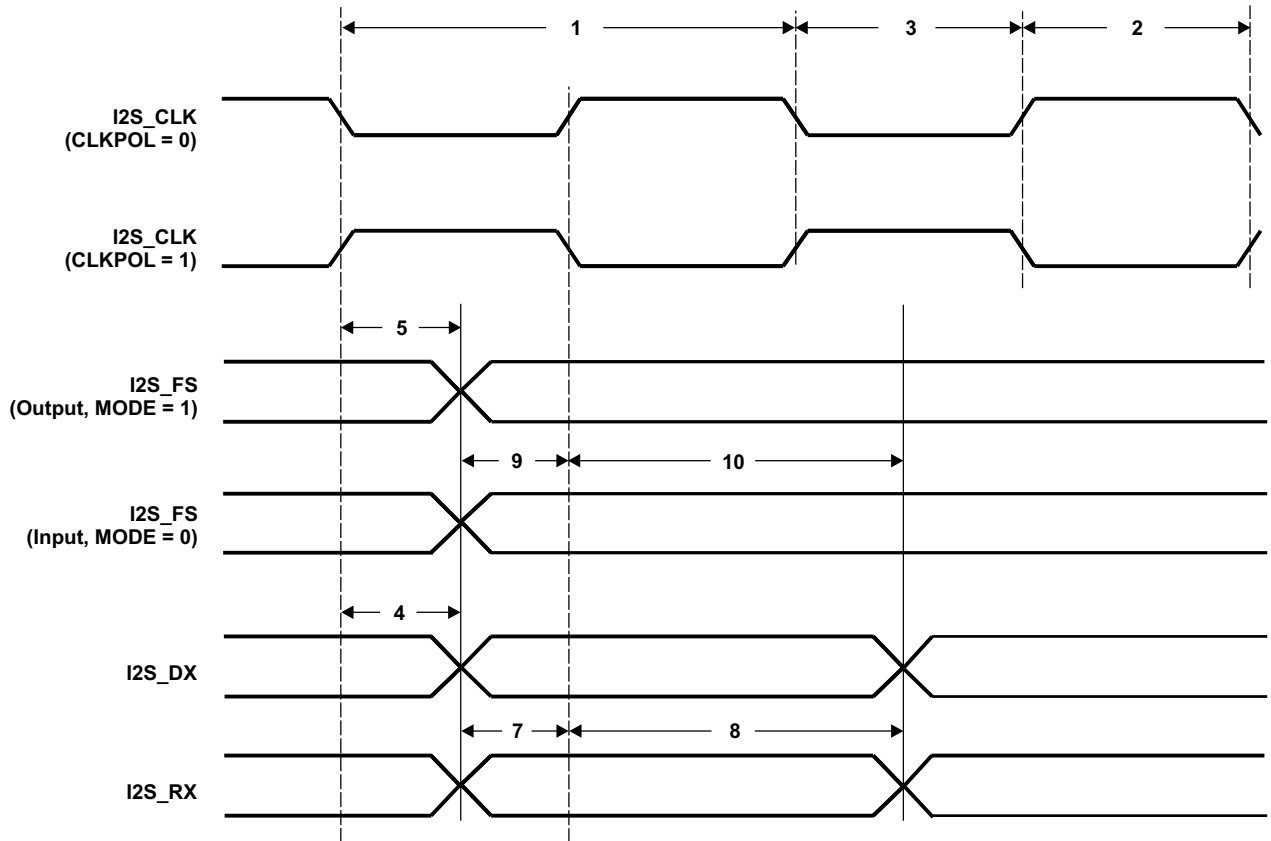

Figure 6-29. I2S Input and Output Timings
**Table 6-35. Timing Requirements for I2S [I/O = 3.3 V, 2.75 V, and 2.5 V](1) (see Figure 6-29)**
(1) P = SYSCLK period in ns. For example, when the CPU core is clocked at 100 MHz, use P = 10 ns.
(2) Use whichever value is greater.
(3) In Slave Mode, I2S\_FS is required to be latched on both edges of I2S input clock (I2S\_CLK).
**Table 6-36. Timing Requirements for I2S [I/O = 1.8 V](1) (see Figure 6-29)**
**[I/O = 3.3 V, 2.75 V, or 2.5 V] (see Figure 6-29)**
[I/O = 1.8 V] (see Figure 6-29)**